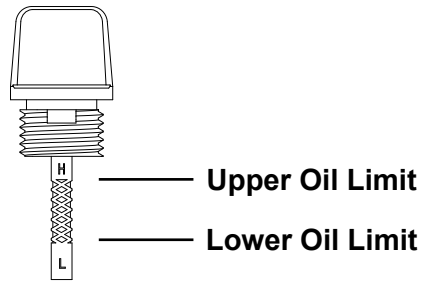

Fig. 21
4. Remove the dipstick from the filler neck then check the oil level. Oil level should be at the upper oil limit on the dipstick (Fig. 21).